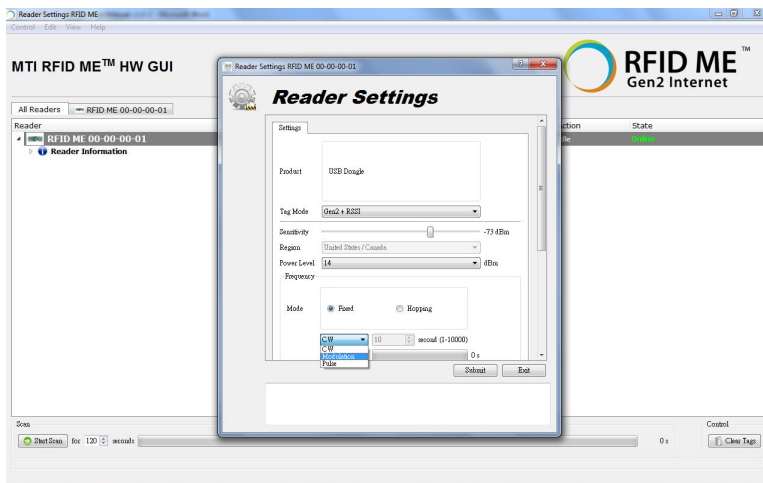

Figure 14
- CW/Modulation/Pluse as shown in Figure 14.